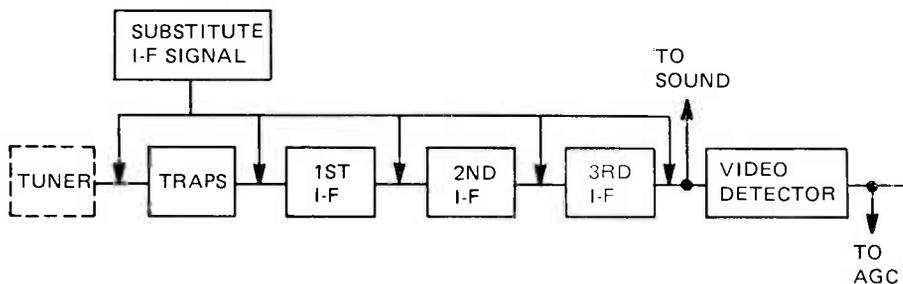

FIGURE 5. SIGNAL INJECTION USED TO LOCATE THE DEFECTIVE STAGE.
*Signal injection* is another fast method of troubleshooting. A tuner substitutor or television analyzer injects an i-f signal before each stage. When the picture appears, the problem is in the area right between this point and the previous injection point. Figure 5 shows this process. Starting at the beginning of the i-f strip, the signal is injected between each stage. If the injection of a signal between the first and second i-f produces no picture, but a signal injected after the second i-f does produce a picture, the problem lies between the two places (second i-f). This method makes troubleshooting very fast. Be sure to remember that the farther down the i-f strip toward the video detector you go, the less gain there is. That means that the picture you see will be low in contrast.
i-f input. Usually the connection is a plug, but sometimes it is soldered, so you have to unsolder it. Next, connect a 500 pF or 0.001  $\mu$ F capacitor (or any small value) to the center lead. This capacitor is the probe you will be using to make your signal injector. Finally, ground the shield of the tuner cable. Now you can use this cable to inject i-f signals. Just hold the capacitor by its body, and touch the loose end to the points shown in Fig.5.